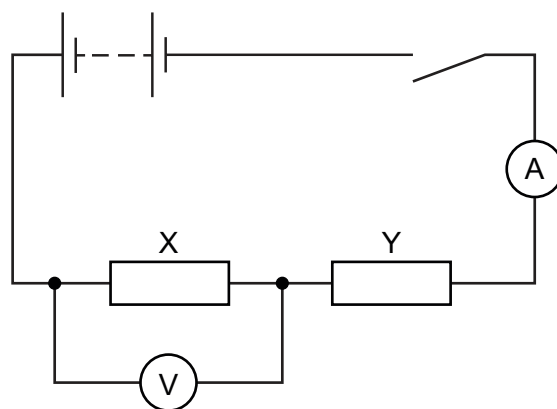

Fig. 2.1
- sufficient connecting leads to assemble the circuit shown in Fig. 2.1
- two extra connecting leads for candidates to use in addition to those used in the circuit shown in Fig. 2.1.
3. The circuit shown in Fig. 2.1 must be set up ready for the candidates to use.
Ensure the circuit is restored to match the circuit in Fig. 2.1. Check that any cells are still charged and replace depleted cells.